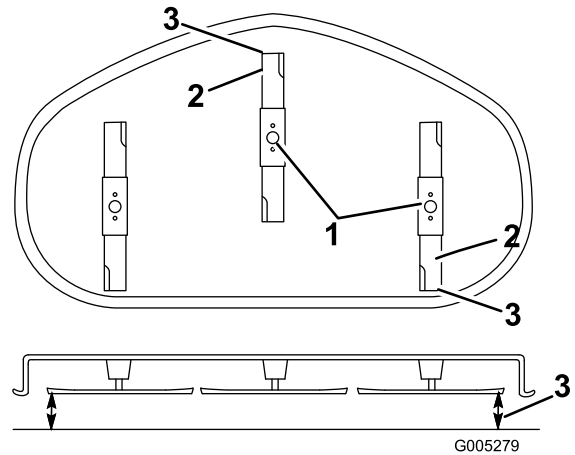

Figure 40
5. Set the height-of-cut at position 3 [3 inch (76 mm)] and carefully rotate the blades so they are facing front to rear (Figure 40).
6. Measure from the tip of the front blade to the flat surface and the tip of the rear blade to the flat surface (Figure 40). If the front blade tip is not 1/16-5/16 inch (1.6-7.9 mm) lower than the rear blade tip, adjust the front locknut.
is 1/16-5/16 inch (1.6-7.9 mm) lower than the rear blade tip (Figure 40).